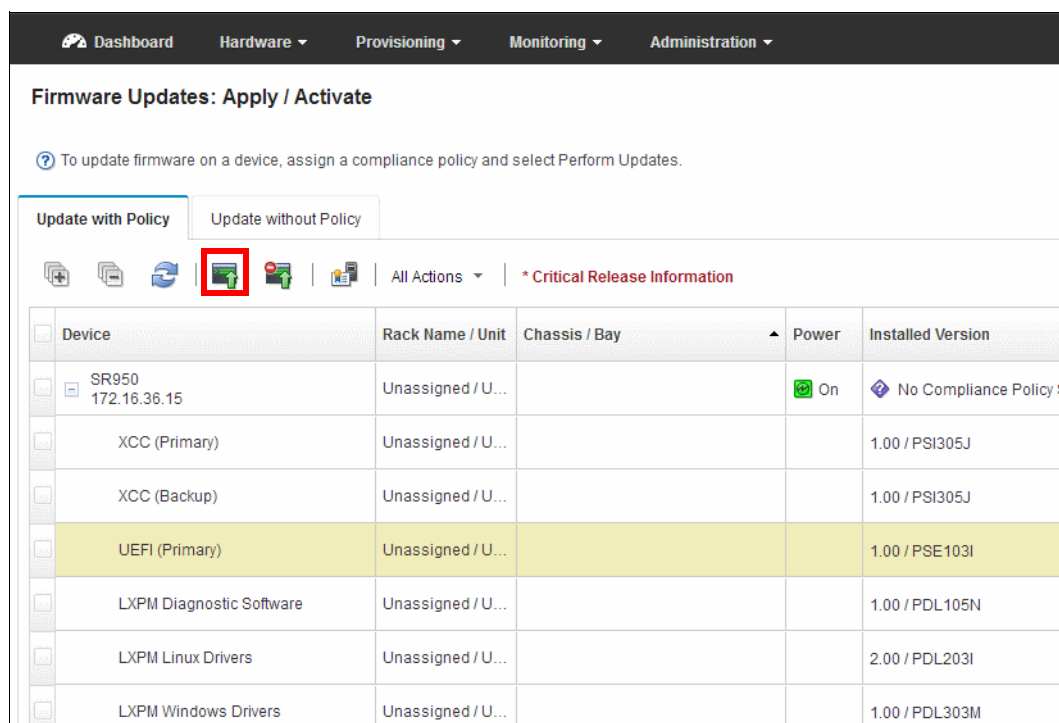

Figure 5-71 Apply updates
2. In the Firmware Updates: Apply / Activate window, select the required hardware components to update, and click the **Perform Updates** icon, as shown in Figure 5-71.